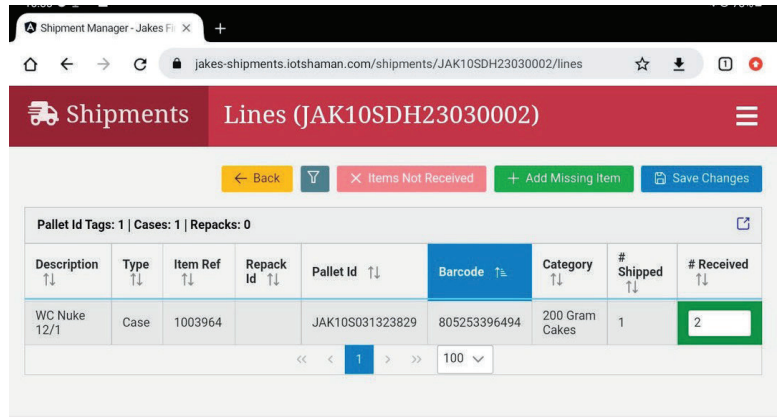

Figure 14
- 6. Once all changes have been made, click on SAVE CHANGES - All # Received quantities will now be highlighted in GREEN (Figure 14 & 15).